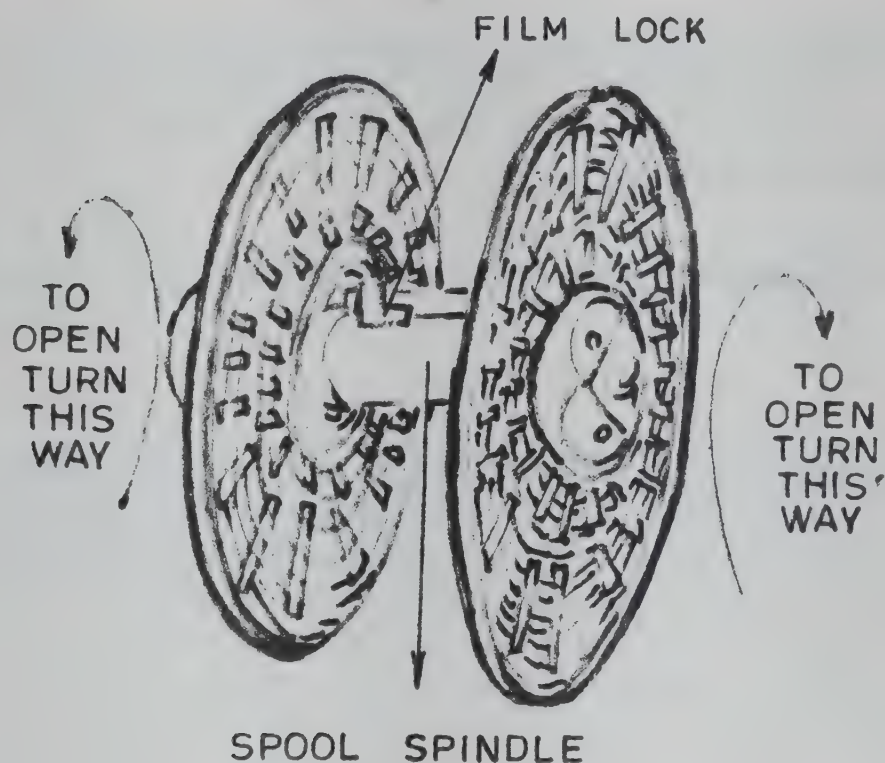

FIG. 9
- v) Once a week check spiral spool for cracks and damages and tightness of nuts. If replacement of flanges with appropriate R or L blades become necessary, unscrew nuts (nut A loosens counter clockwise and nut B clockwise) to put in good flanges (diagram) (see Fig. 9).